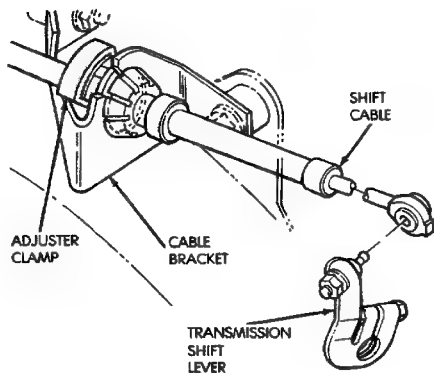

Fig. 47 Shift Cable Adjustment
- (1) Shift transmission into Park.
- (2) Raise vehicle.
- (3) Release cable adjuster clamp to unlock cable (Fig. 47).
- (4) Unsnap cable from cable bracket (Fig. 47).
- (5) Move transmission shift lever all the way rearward into Park detent. Lever is on manual valve shaft at left side of case.
- (6) Verify positive engagement of park lock by attempting to rotate propeller shaft. Shaft will not rotate when park lock is engaged.
- (7) Snap cable into cable bracket.
- (8) Lock shaft cable by pressing cable adjuster clamp down until it snaps into place.
- (9) Check engine starting. Engine should start only in Park and Neutral.
- (10) Lower automobile.